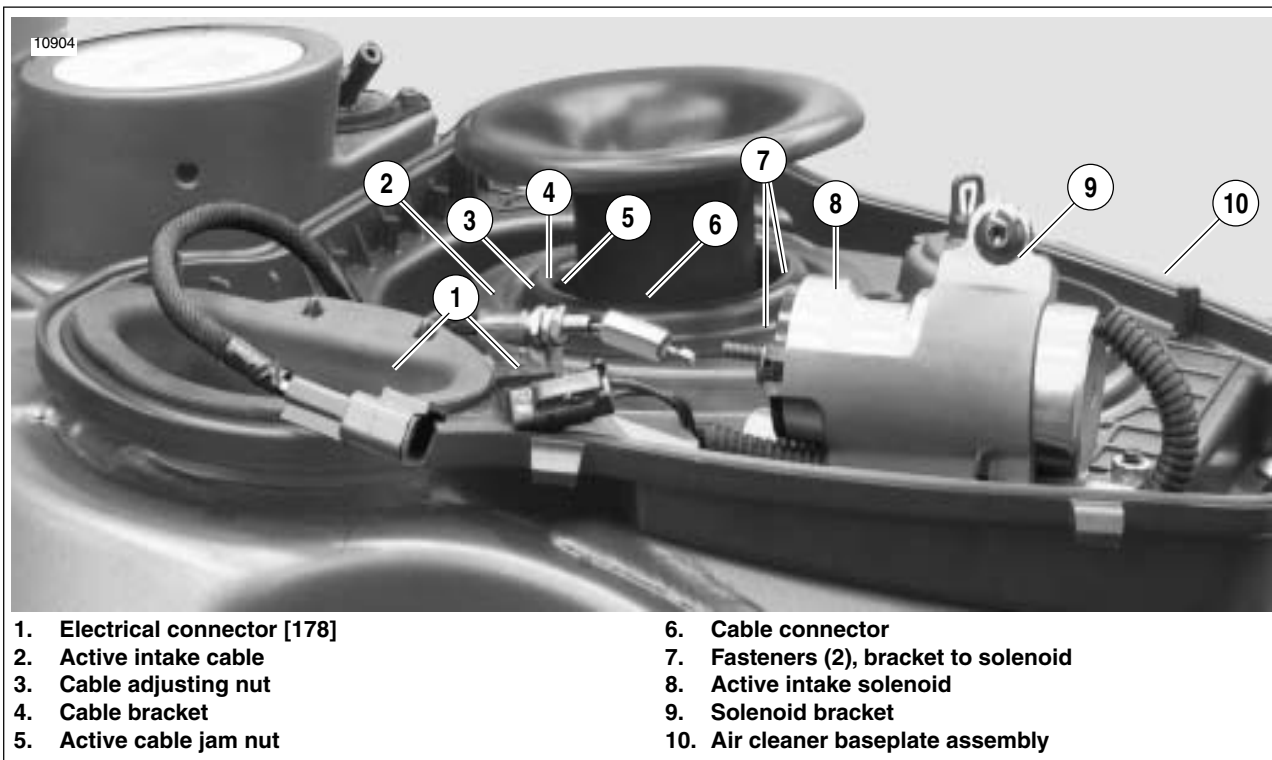

Figure E-5. Disconnecting Active Intake System
1. See Figure E-5. Disconnect electrical connector [178] (1).
2. Hold solenoid shaft by flat spot provided and break cable connector (6) loose.
3. Unthread cable connector and disconnect cable from solenoid (8).
4. Loosen jam nut (5) and disconnect active cable (2) from cable bracket (4).
1. See Figure E-5. When installing baseplate assembly (10) see 4.45 AIRBOX.